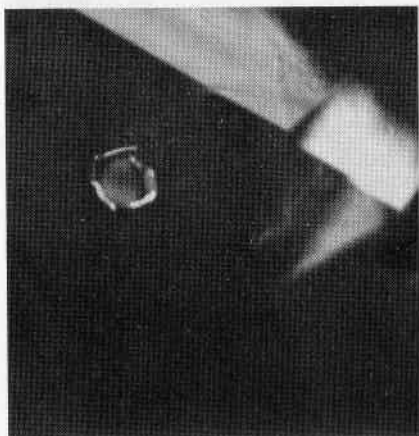

Figure 3
*Figure 3* illustrates a most unusual emerald-cut green glass that contained a gas bubble in the shape of a crystal — a most misleading bit of evidence, if a loupe only were used to examine the stone.